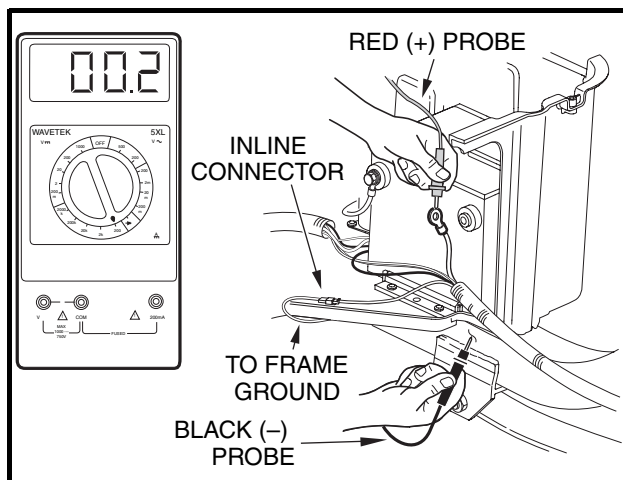

Figure 11-11 Battery Ground Cable Test
- 4.2. Set the multimeter to 200 ohms. Place the red (+) probe on the unconnected end of the 6-gauge black cable, and place the black (–) probe on the vehicle frame (**Figure 11-11, Page 11-16**). The reading should be continuity. If the reading is incorrect, ensure that terminal connections are clean and tight. If the connections are good and the reading is incorrect, check that the in-line connector is secure, repair or replace the cable.